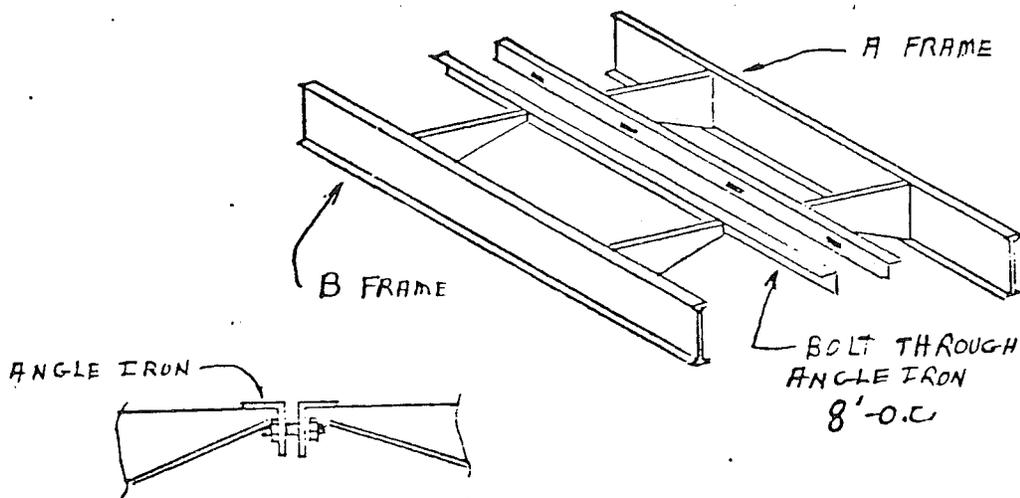

FIGURE 2 - JOINING STEEL FRAME
2. With the sections in alignment, tie the floors together with 3/8" X 1 1/2" bolts through angle iron at ends of outriggers, (Figure 2).